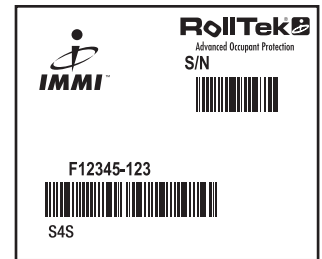

Figure 2
1. Locate product identification label. This is located on the top surface of the unit. **See FIGURE 2.**